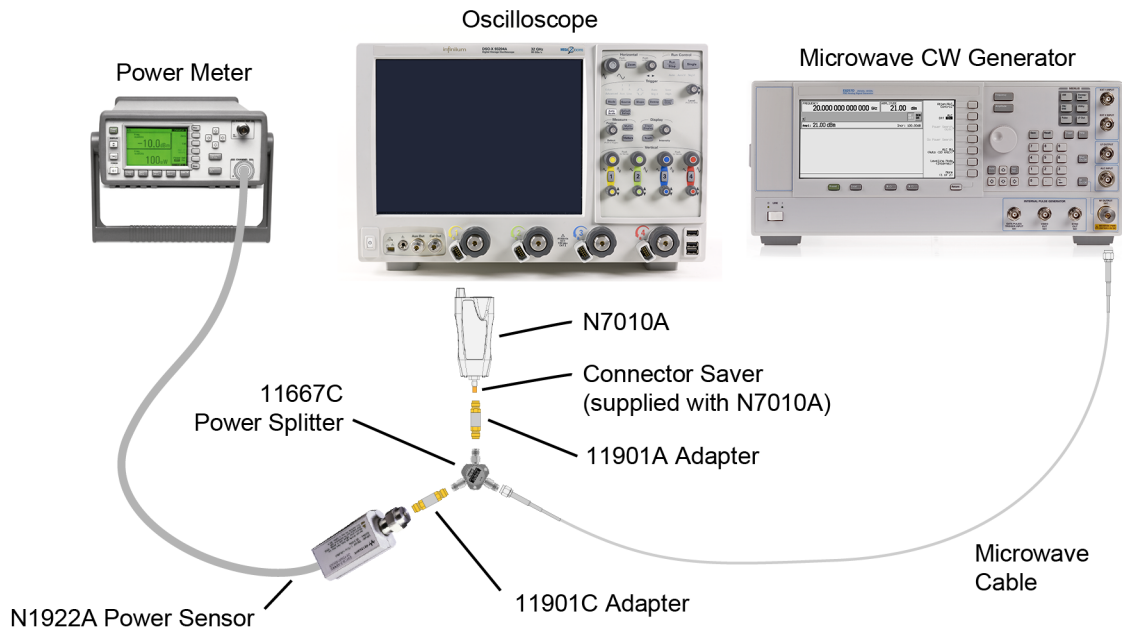

Figure 11 Bandwidth Test Setup
- 5 Connect the test setup as shown in **Figure 11**. Do not use any additional cabling or adapters.